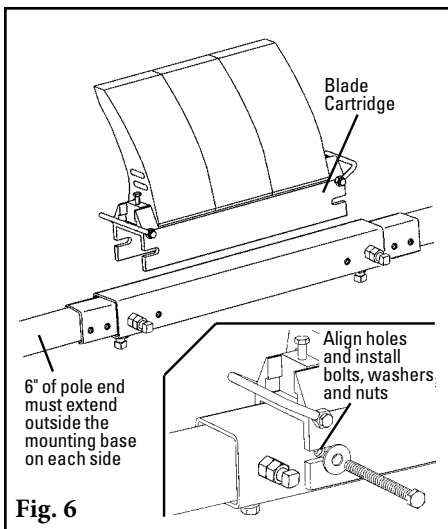

Fig. 6
- Install the blade cartridge.** Place the blade cartridge onto the center pole. Adjust the extender poles until the holes align with the holes in the center pole and lock the cartridge into place with the two bolts, washers and nuts (Fig. 6). **NOTE:** Be sure at least 6" of the extender pole extends out of the mounting base on each side for tensioner installation. Adjust the extender poles in the center pole if more or less length is needed.